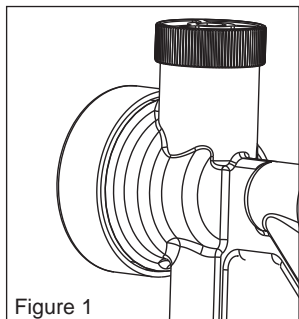

Figure 1
2. Turn the lock knob counter clockwise to loosen (see figure 1).